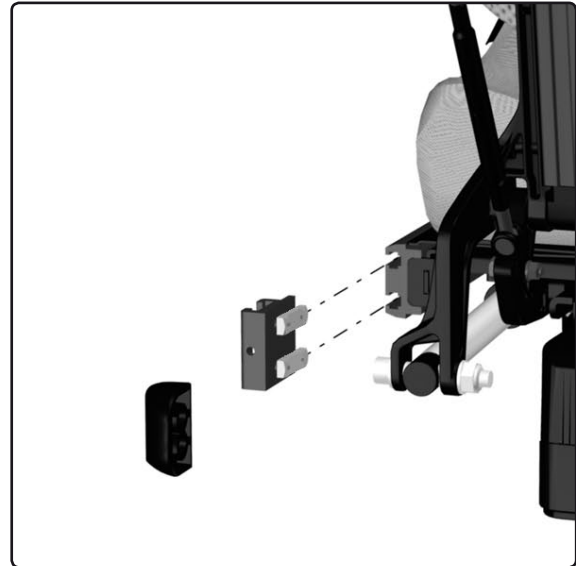

Fig. 1. Mount the bracket.
1. Remove the plastic plug on the back edge of the UniTrack rail. (Fig 1)